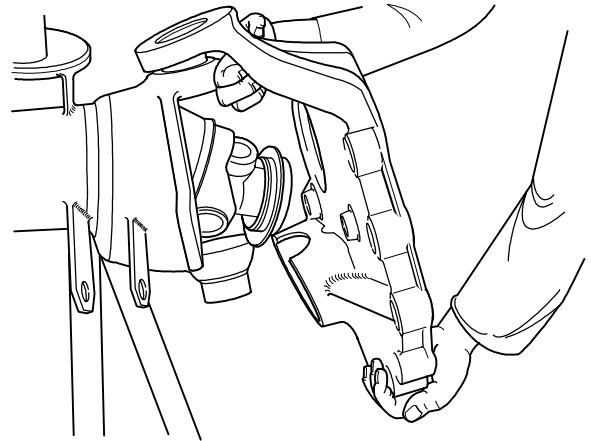

Figure 249 - Steering Knuckle - Removal
- ad. Remove the steering knuckle (Fig 249).